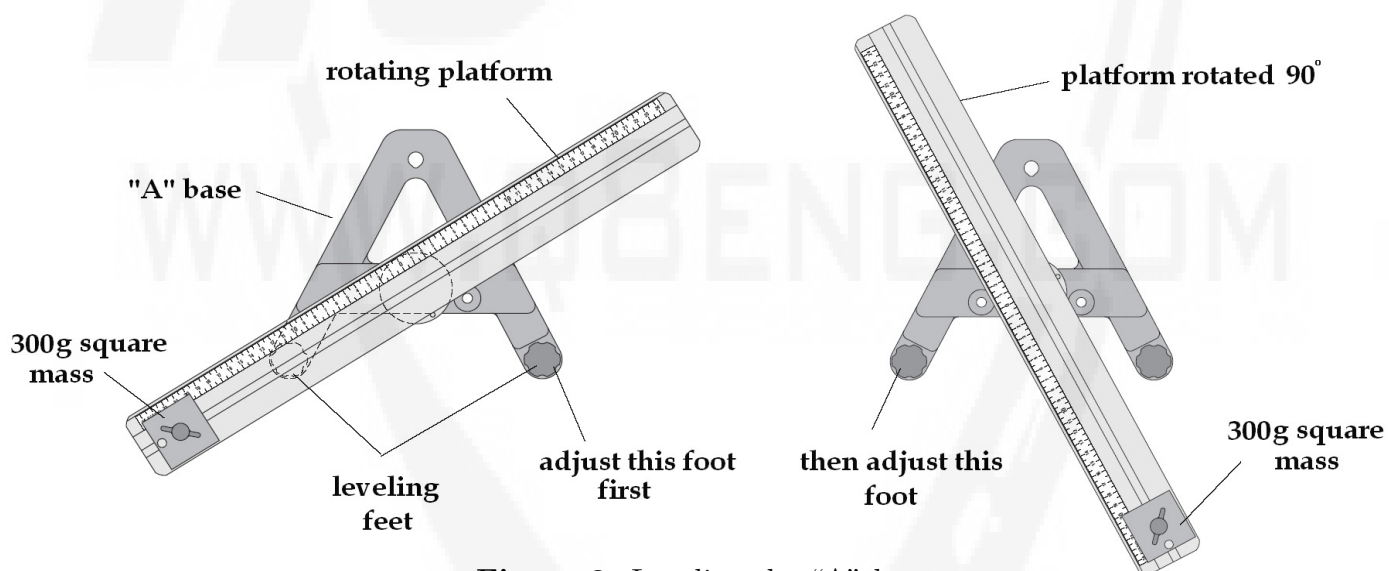

Figure 2. Leveling the “A” base
- 1) **Set up** the equipment according to Figure 2.